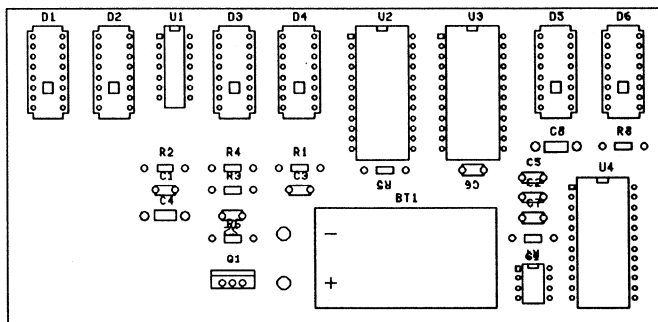

Figure 6-8. The TUTOR board, with hidden module text.
7. Enable **Hide Module Type Text**, then select **OK**. No module type text displays. Refer to figure 6-8.